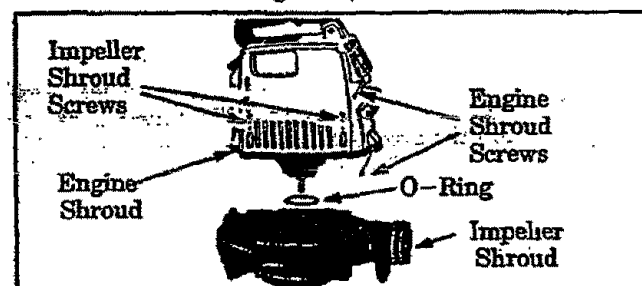

Figure 15
4. Remove the 4 impeller shroud screws. Figure 15. Then, remove the 2 engine shroud screws located by the spark plug. Figure 15. Remove the impeller shroud from the engine shroud.
NOTE: Be sure the rubber O-Ring is installed onto the pulley housing. See Figure 15.